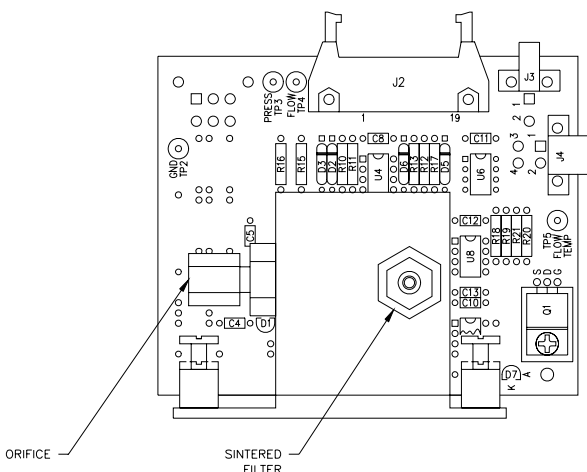

Figure 15. Sintered Filter Replacement
3. The sintered filter is located in the inlet fitting of the flow block (refer to Figure 15). Remove this fitting and replace the filter (be sure to use a new O-ring). Reinstall the fitting into the block, ensuring that the O-ring is in place around the base of the fitting.